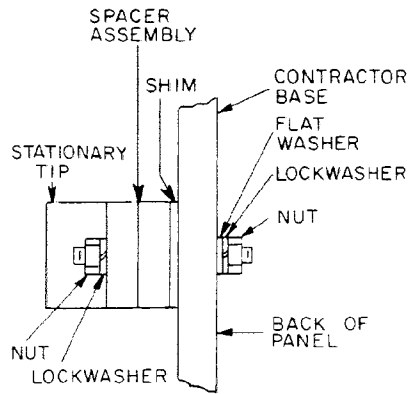

Fig. 4B. Stationary main-tip assembly.
2. Mount the main tip assembly, spacer and shims per Fig. 4B. Initially, the spacer contained a tapped hole into which a stud was inserted. Now, the stud is brazed to the spacer to make the stud and spacer a single unit.
Install shims, as needed, between the spacer assembly and the panel, as shown in Fig. 4B, to obtain a wipe of 19/64-inch \pm 1/32-inch. Loosen hardware at the back of the panel to allow adding of the shims.